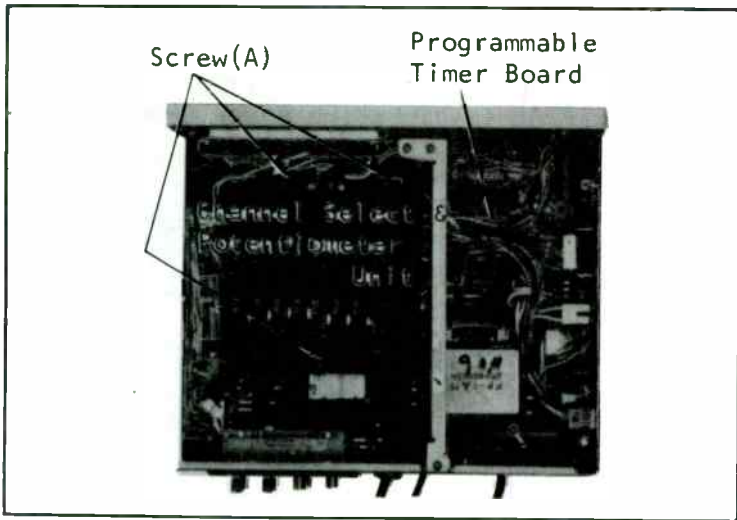

Fig. 9-19. Programmable timer board layout (courtesy of General Electric).
When this section is adjusted, remove 3 screws (A) the channel select and potentiometer unit as shown in Figs. 9-19 and 9-20.